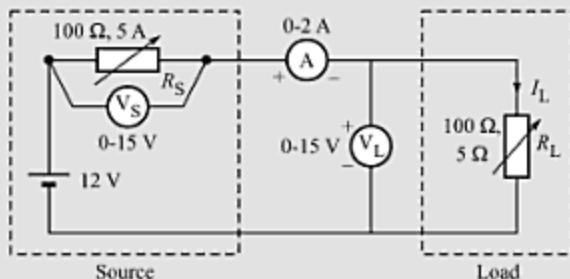

Fig. 4.59
**Circuit Diagram** The circuit diagram is shown in Fig. 4.59.
1. Connect the circuit as shown in Fig. 4.59.
- From the graphs given in Fig. 4.59, it is observed that as the value of  $R_L$  is increased the power  $P$  increases, becomes maximum, and then decreases.